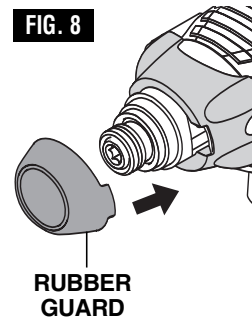

FIG. 8
3. Replace rubber guard to secure gear box cover (Fig. 8).